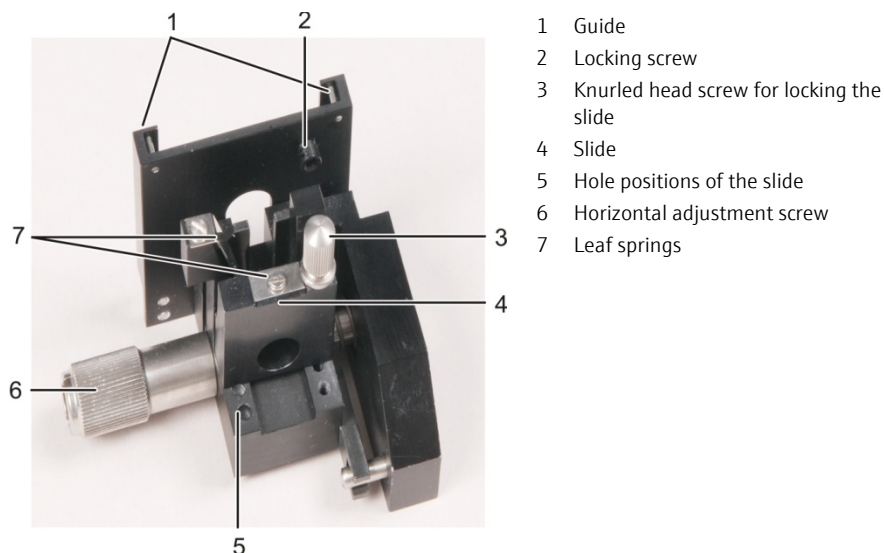

Fig. 18 Holder for microcells with variable pathlength
1. Adjust the slide in accordance with the cell pathlength. Unscrew the knurled head screw at the slide (3), place the slide (4) into one of the hole positions (5) provided and fasten it with the knurled head screw.
2. Slightly unscrew the locking screw at the holder (2) to prevent jamming when inserting the holder.
4. Tighten the locking screw (2) to secure the holder relative to the beam path.
5. Insert an empty cell or one filled with solvent into the holder. The cell is pressed by the leaf spring (7) into the cell guide.
- Monitor through the gap how the light hits the cell. Using the knurled head screw (6 in Fig. 18) adjust the cell in such a way that the light hits the cell at the center.